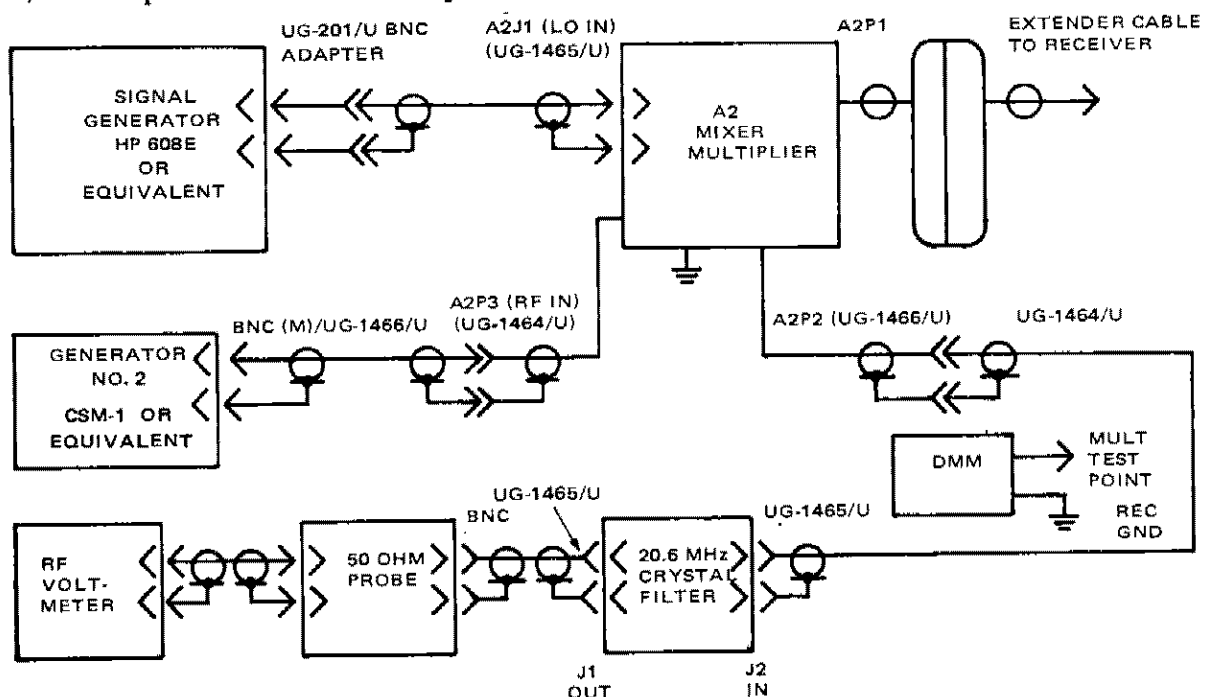

Figure 7-6. Test Setup for Mixer/Multiplier A2
\* **7.14.6 Mixer/Multiplier A2 Alignment.**- (This is normally a depot level alignment.) Figure 7-6 shows the test setup. See figures 10-7, 10-8, 11-23, and 11-24 (vlf) or figures 10-9, 10-10, 11-21, and 11-22 (uhf) for test point and measurement point locations. \*
7.14.6.2 Procedure (UHF).- Connect test equipment as shown in figure 7-6 and proceed as follows:
**7.14.6.3 Procedure (VHF).**- Connect test equipment as shown in figure 7-6 and proceed as follows: